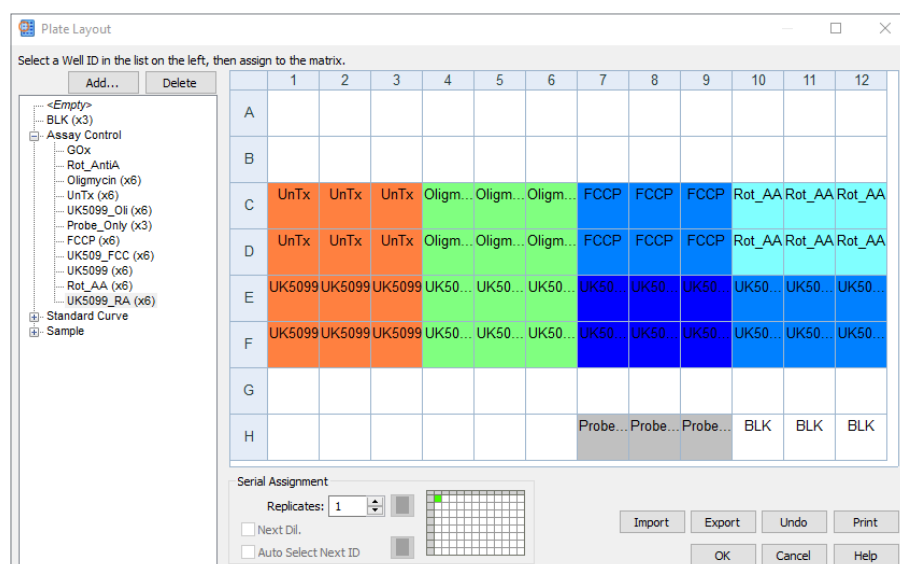

Figure 9. Plate layout for compound testing.
- iv. Add new groups, select **Assay Control**, then name each sample and place them appropriately (see Figure 9). Alternatively enter each condition as a sample, for example, SPL1-4 then label samples using **Plate > Sample ID**.